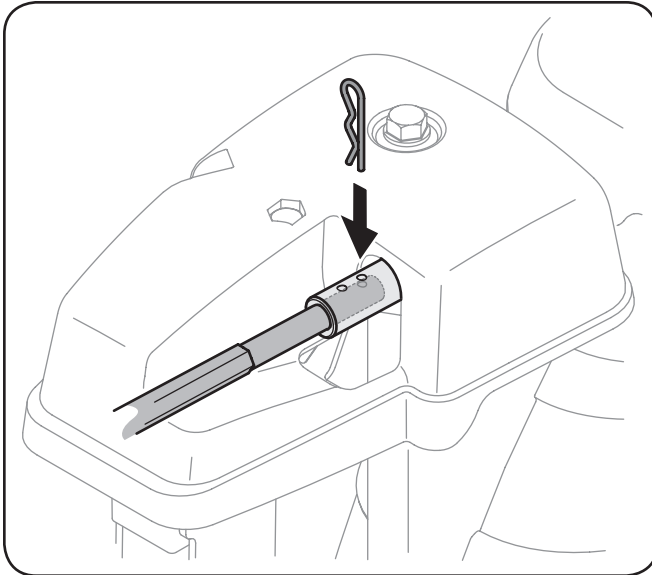

Figure 3-8
8. Push the rod toward the control panel until the hole in the hex rod lines up with the hole in the chute control input closest to the chute control head and insert the cotter pin. See Fig. 3-8.